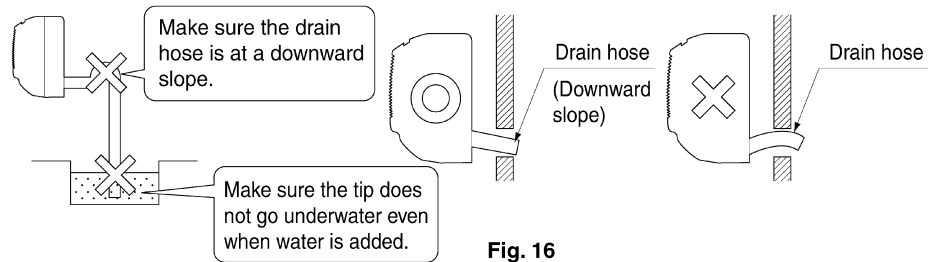

Fig. 16
(1) Install the drain piping. (Refer to Fig. 16)
- Watch out for the points in the figure 16 when performing drain work.